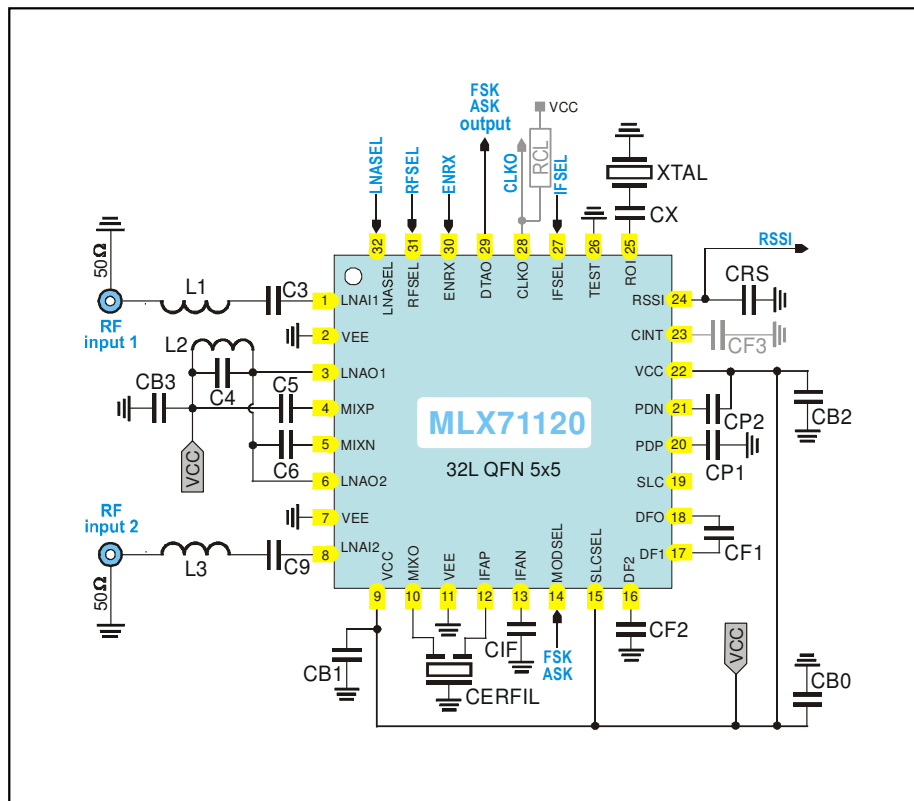

Fig. 10: Dual-channel circuit schematic, peak detectors activated
typical values at $T_A = 23\text{ }^\circ\text{C}$ and $V_{CC} = 3\text{ V}$, all parameters based on test circuits as shown Fig. 10
5.1.1 Test Circuit Component List for Figure 10